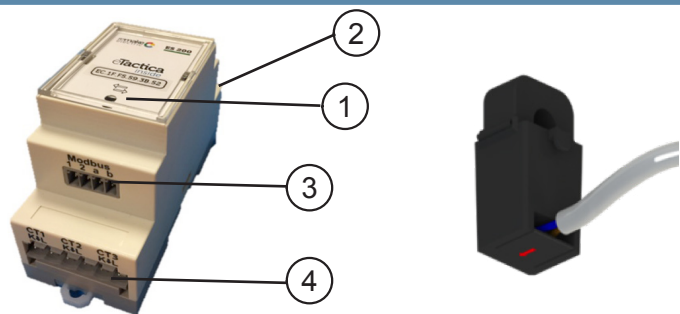

Fig. 1: Scope of delivery of the Power Meter and CTs (example: EM-200).
- ▶ Plug the cable into connectors on the Power Meter (pos. 4 in Fig. 1). The phases of the CTs should match the phases of the voltage inputs.
- ▶ Plug the terminal plug into connector on the Power Meter (pos. 2 in Fig. 1). Connect the cable to the Power Meter (pos. 3 in Fig. 1).
- ▶ Connect the cable to the Power Meter (pos. 3 in Fig. 1).
A LED light (pos.1 in Fig. 1) indicates the status according to the following: